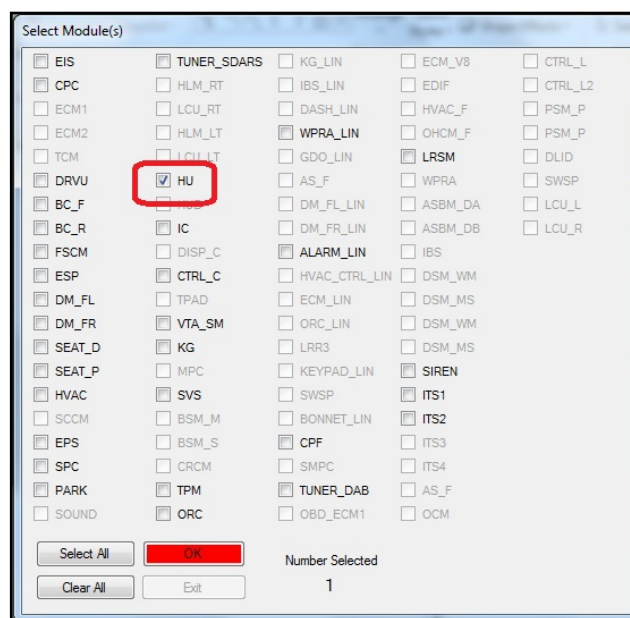

Figure 2
10. Select "HU" from the list of available modules and click "OK" (refer to Figure 2).